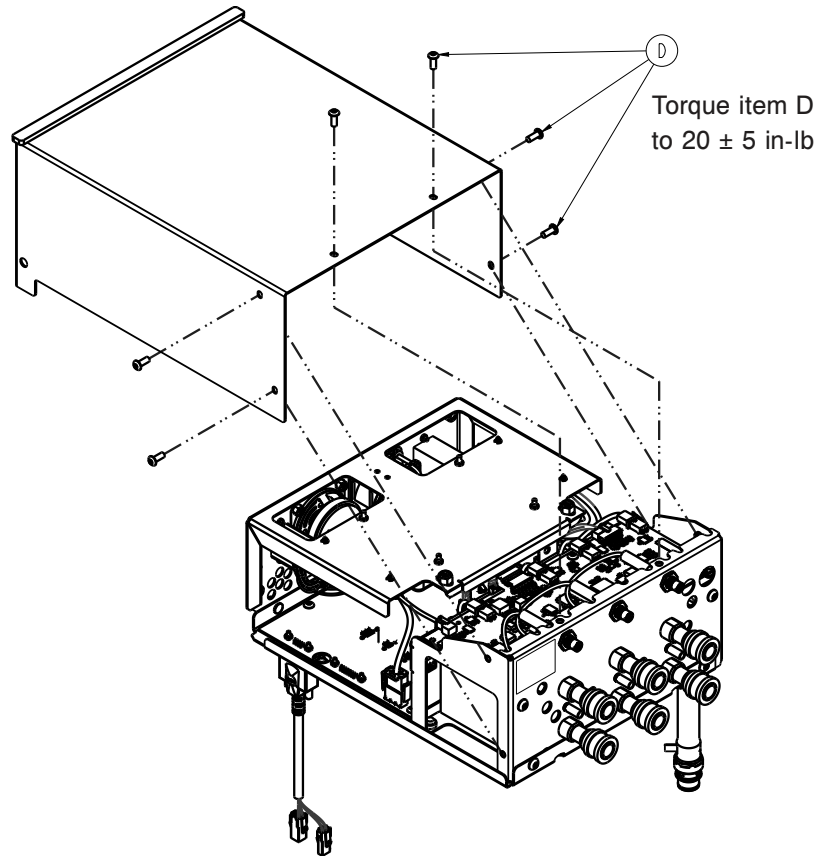

Figure 34 – Control box cover
5. Using a T25 Torx driver, remove the six screws (D) that secure the control box cover to the MCB frame (Figure 34). Save the screws.